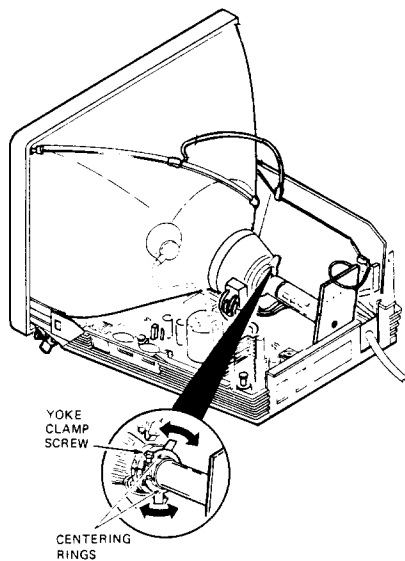

Figure 3-2 Rotation and Centering Adjustments
4. If necessary, use the centering rings on the neck of the CRT to center the reverse video pattern within the CRT bezel (Figure 3-2).